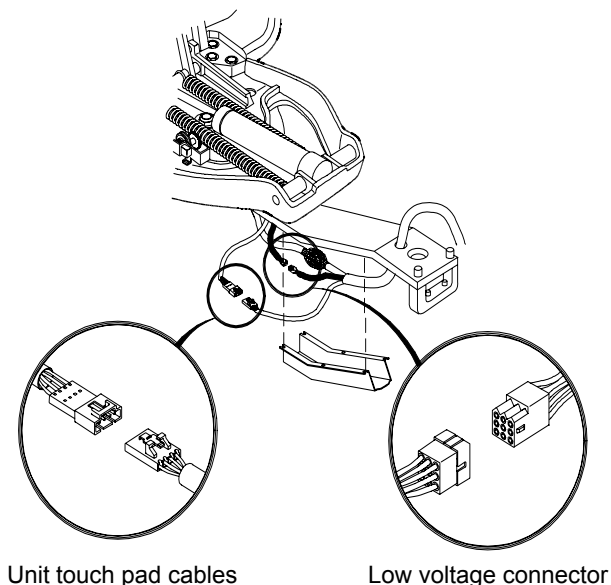
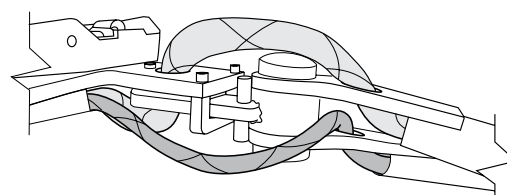

Figure 8
Figure 9
12. Connect the unit touch pad cables. See figure 8. Connect the low voltage wiring 8-pin connector. Depending on the options ordered with the delivery system there may be other electrical connections such as s-video or camera power. These connections should be made with their mating connectors. As with all electrical connections care should be taken for proper alignment before inserting mating connector to prevent damage and to ensure proper connections. Ensure all tubings and cables are covered with snake skin as in figure 9.